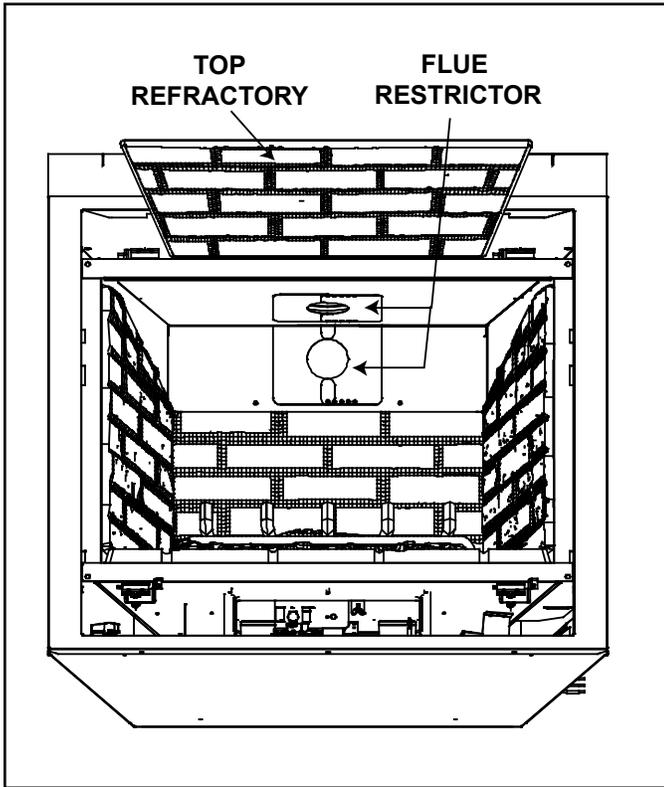

Figure 7.11
- Center the two flue restrictor pieces on the vent at the setting selected in step 6 and secure in place by using two self-tapping screws. See Figure 7.11.